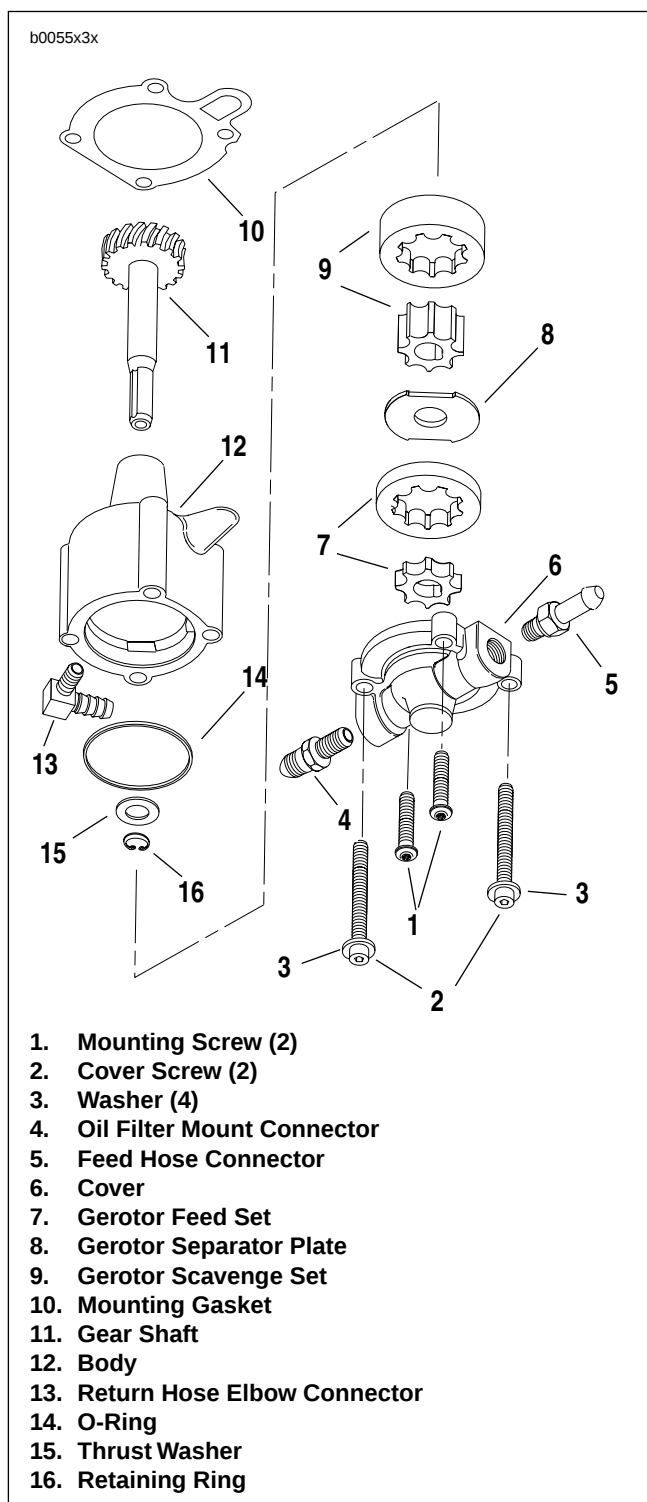
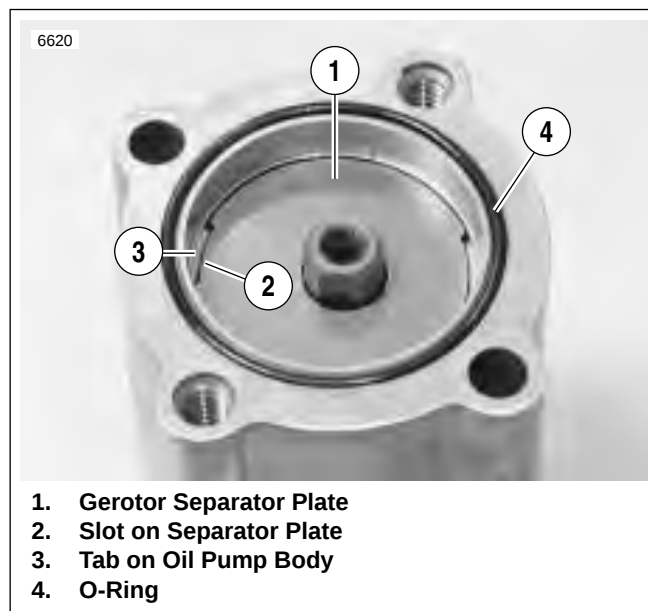

Figure 3-52. Oil Pump
Figure 3-54. Separator Plate Slots
4. Carefully remove mounting screws and washers (1). Pump will drop with screws removed. Discard mounting gasket.
5. Remove clamp and detach return hose connection (4).
6. See Figure 3-52. Remove T27 TORX cover screws (2) and washers (3). Lift cover (6) off body (12). Remove and discard O-ring (14).
7. Slide both pieces of gerotor feed set (7), separator plate (8) and both pieces of gerotor scavenge set (9) off gear shaft (11).
8. Remove and discard retaining ring (16). Remove thrust washer (15) and gear shaft (11).
1. See Figure 3-52. Install gear shaft (11) through body (12). Position thrust washer (15) over end of shaft. Install **new** retaining ring (16) into groove in shaft.
2. Insert inner gerotor of the gerotor scavenge set (9) over gear shaft.
3. Place outer gerotor over inner to complete scavenge set (9).
4. See Figure 3-54. Position gerotor separator plate into case and line up slots on perimeter with tabs inside oil pump body.
5. Place gerotor feed set (7) over gear shaft (11).
6. Install a **new** O-ring (14) into groove in cover (6). Place cover onto pump body. Install T27 TORX cover screws (2) with washers (3). Tighten to 70-80 **in-lbs** (7.9-9 Nm).
7. Place **new** mounting gasket (10) in position.